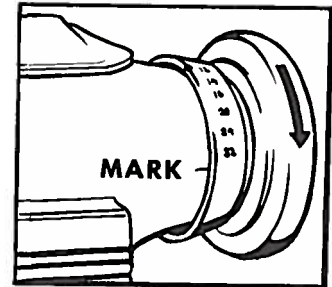

Fig. 20. Stitch Length Indicator
4. Turn machine pulley until desired stitch length is opposite mark on arm (see Fig. 20).